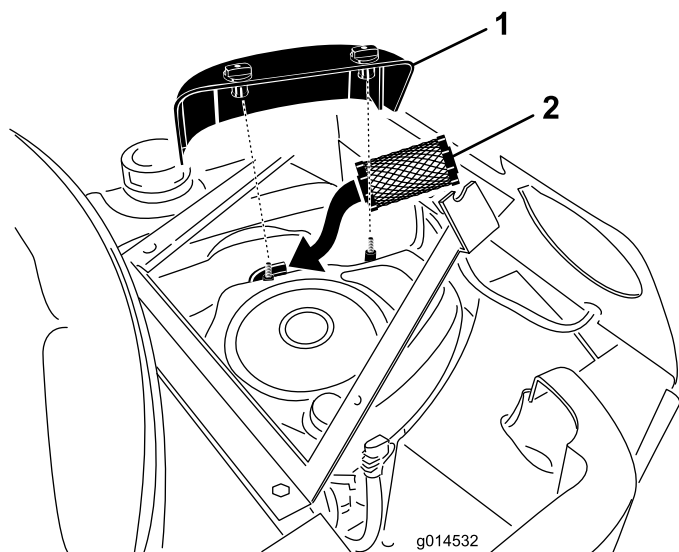

Figure 32
5. Unscrew the knobs on top of the air cleaner cover and remove the cover (Figure 32).
7. Install a new paper element as shown in Figure 32.